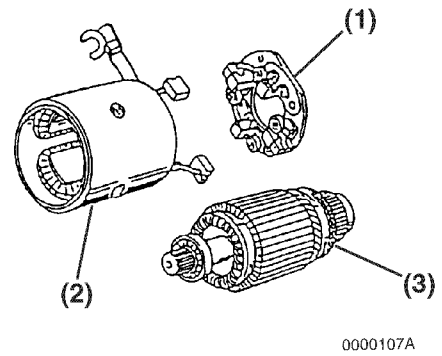

Figure 11-6
5. Remove the brush holder assembly (Figure 11-6, (1)) from the armature assembly (Figure 11-6, (3)).
6. Pull the armature assembly (Figure 11-6, (3)) out from the field coil assembly (Figure 11-6, (2)).